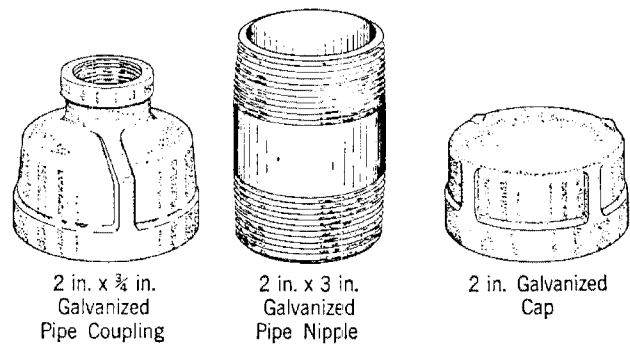

Fig. 2
2.03 The items other than coil case and wire which are required for installing the load coil are shown in Fig. 2. The pipe nipple, pipe coupling, and pipe cap may be purchased locally.